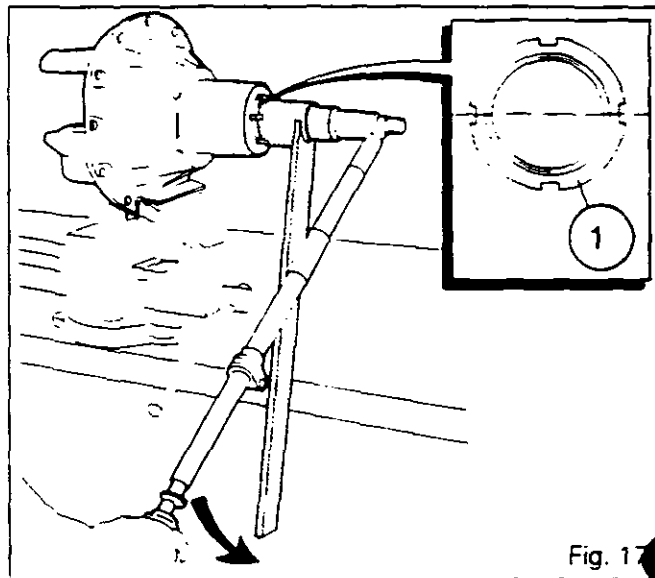

Fig. 17
53. Maintain nut (1) with the special spanner 3376927 M1 or 3376881 M1. Using the special sleeve and a torque wrench, turn the bevel drive pinion, to obtain a torque of 250 - 295 Nm (Fig. 17).